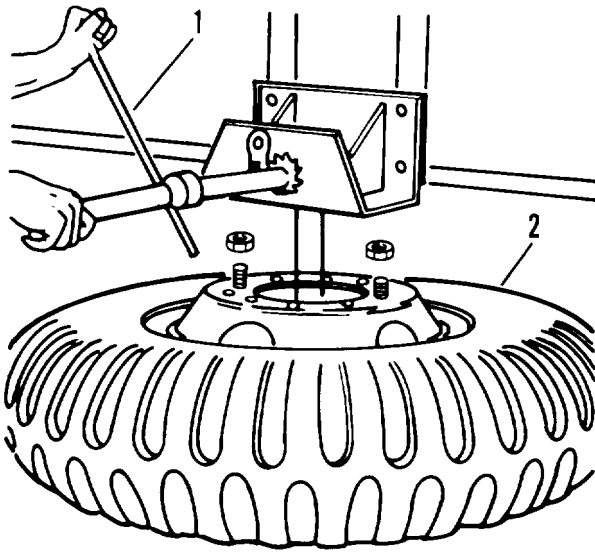

Figure 2-7. Operating spare tire
- b. Operated with lug nut wrench (1, figure 2-7).
- d. Rotating shaft clockwise raises spare tire (2) to the carrying position.
- e. Counterclockwise rotation lowers spare tire (2) to the ground.